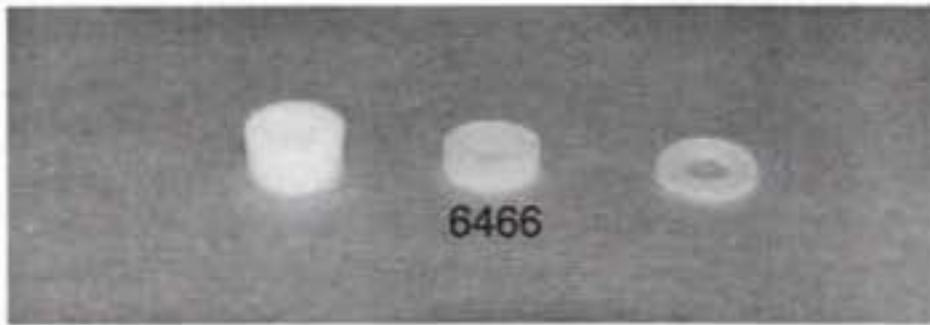

Fig. 120
❑ **Figs. 120 & 121** In bag #6-9 you will find a small bag containing the #6466 plastic downstop spacers (travel limiters) of three thicknesses: .125", .062" & .031". (1) Install the travel limiters on the front and rear shock shafts. Install one .062" spacer and one .031" spacer on each rear shaft. (2) Install one .062" spacer on each front shaft.